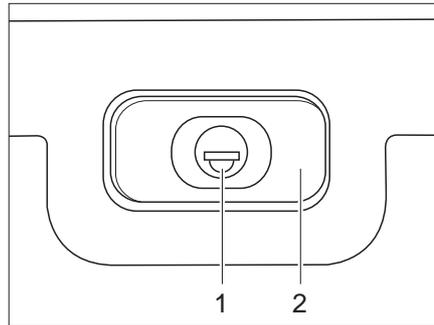

Fig. 31 Flap lock, rectangular, locked
- Insert the key into the locking cylinder (Fig. 31,1) and turn a quarter turn. Lock handle (Fig. 31,2) is released.